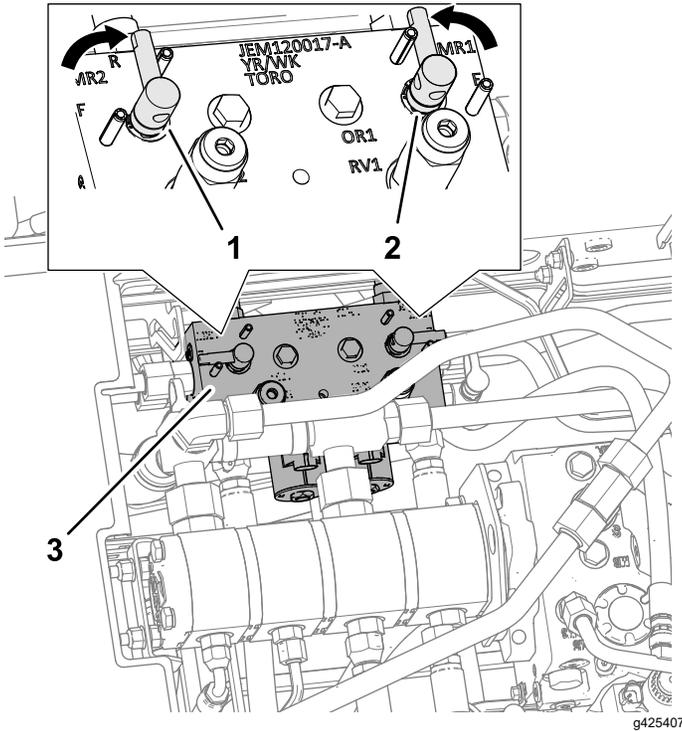

Figure 109
4. Unlock and raise the seat to expose the mower manifold (Figure 109).
5. Move the backlap levers to the R (backlap) position (Figure 109).